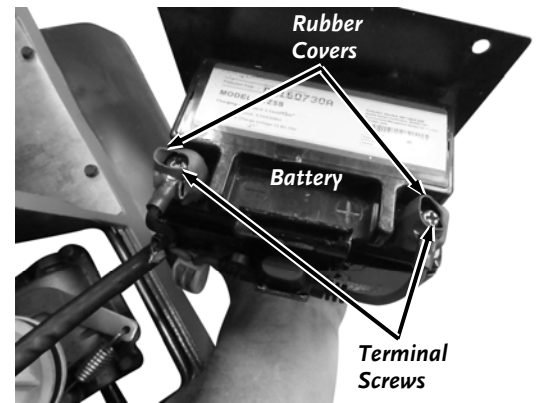

Figure 42
4. Pull out on the Plate to expose the Battery Terminals and Wires (**Figure 42**).